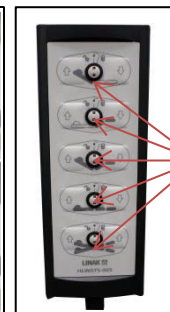

Figure 10: Test each function on the handset
12. Careful place the bed back onto its wheels and test handset functions (figure 10), by default the Trendelenburg function is locked out